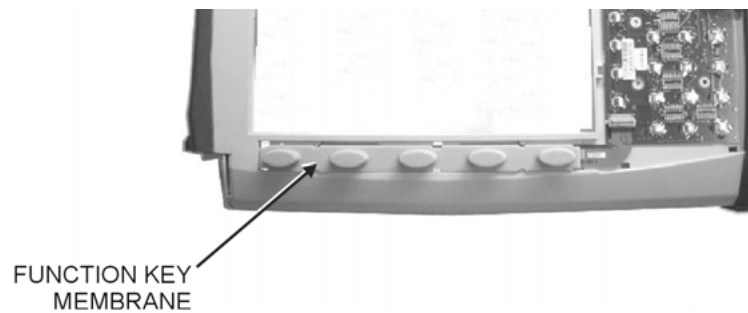

Figure 3-12. Function Key Membrane and Switchpad
4. Remove the function key membrane by gently pulling the membrane up and away from the front panel (Figure 3-12).